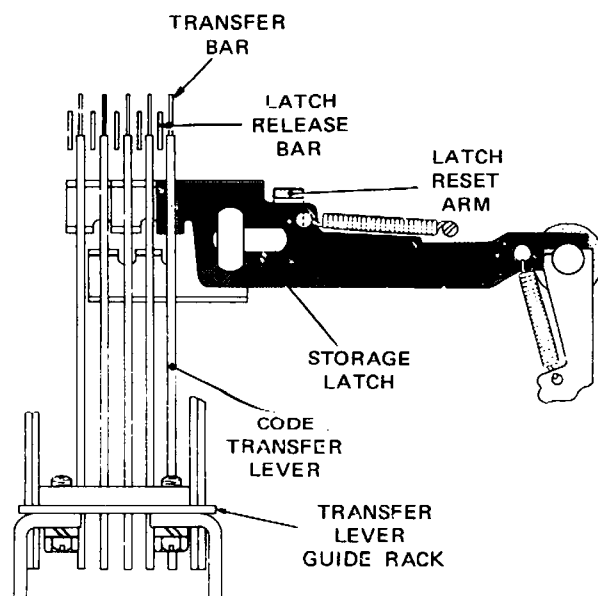

Fig. 4.80 CODE TRANSFER LEVERS MECHANISM
- 88.1 With the machine in the rest condition, set up the letters (MMMMM) combination and check that the code transfer levers, Fig. 4.80, are in full engagement and correctly aligned with the respective transfer bars of the link unit. Ensure that the code transfer levers lie rearward in the slots of the storage latches.